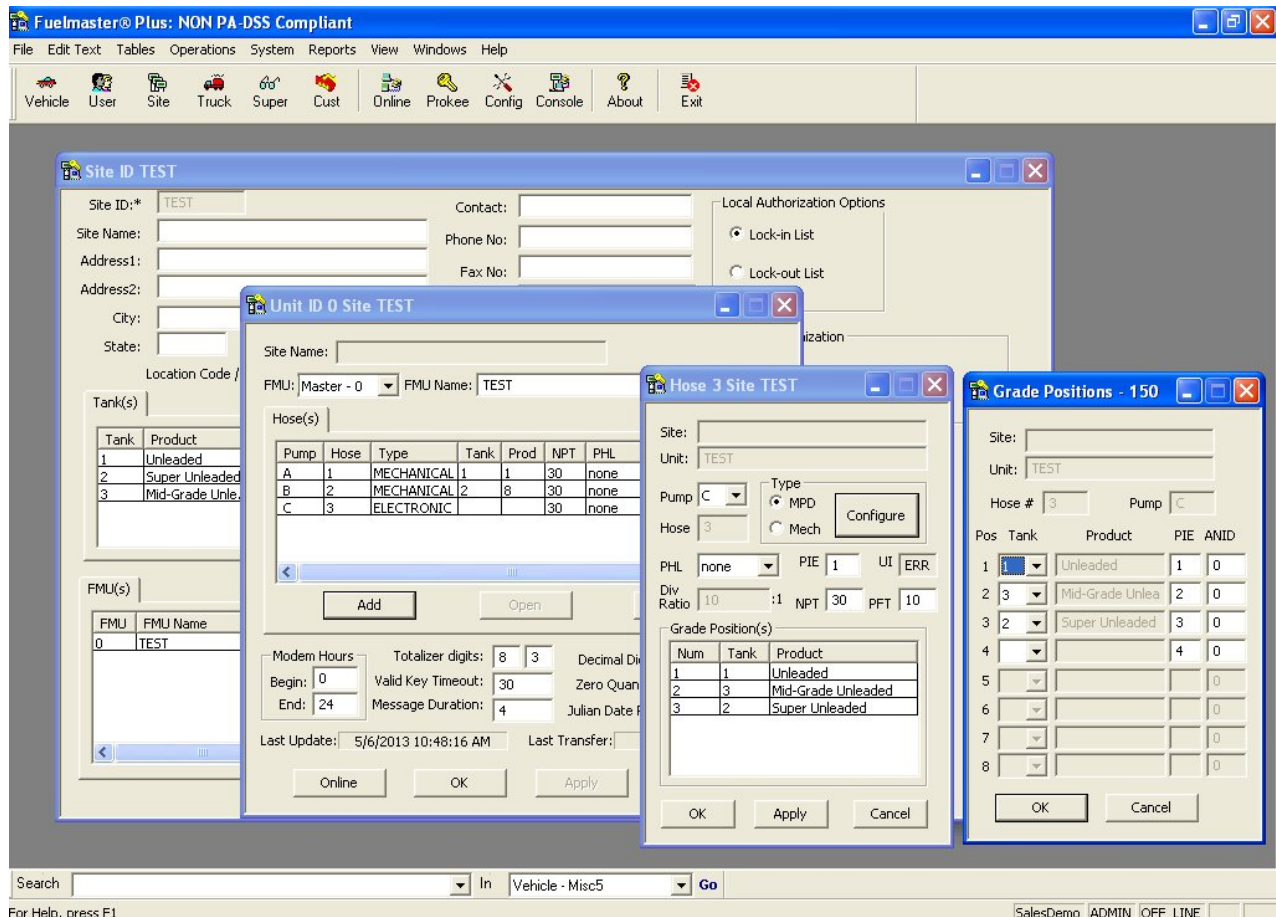

Figure H-9. Adding an Electronic Hose
6. **Add/Configure Electronic Fueling/Grade Positions:** the electronic hoses (fueling/grade positions) must be configured in the controlling FMU. Electronic hoses may be added to an FMU configured for mechanical hoses if there are enough hose positions remaining. See Figure H-9.